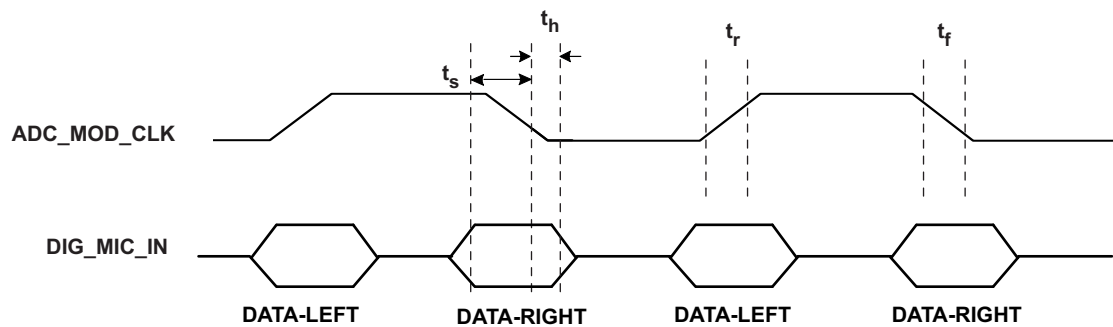

Figure 5. PDM Input Timing
8.15 Digital Microphone PDM Timing (see Figure 5)